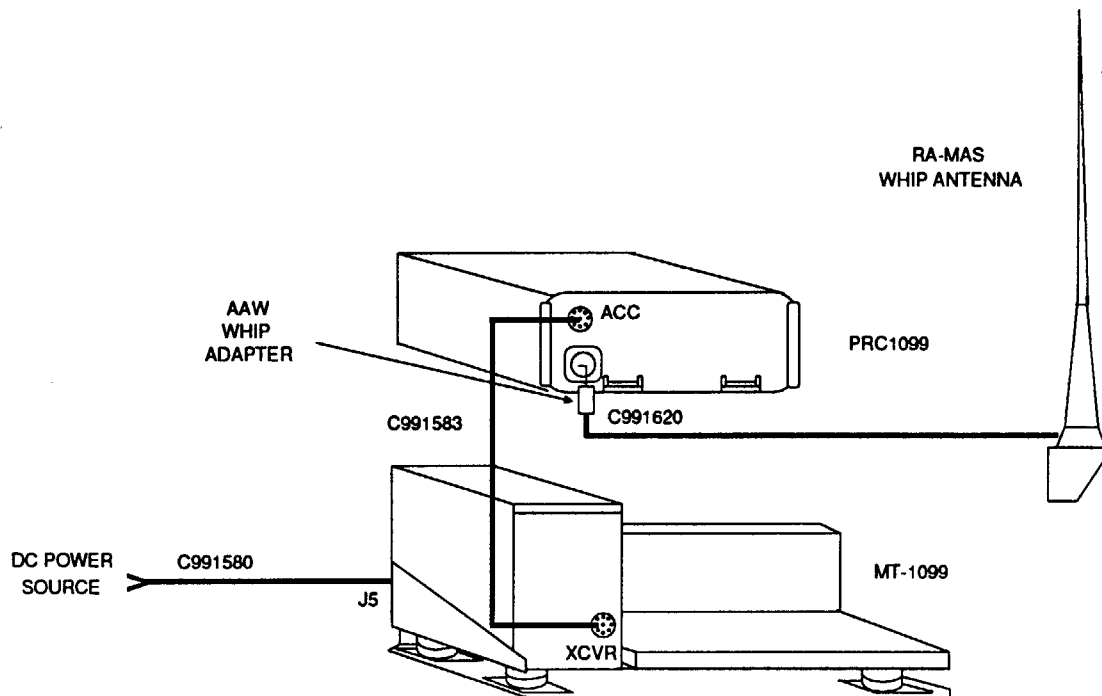

FIGURE B-8.
- a. The PRC1099 can be used in a mobile configuration as shown in Figure B-8.
3. Attach the correct cables as indicated in Figure B-8.